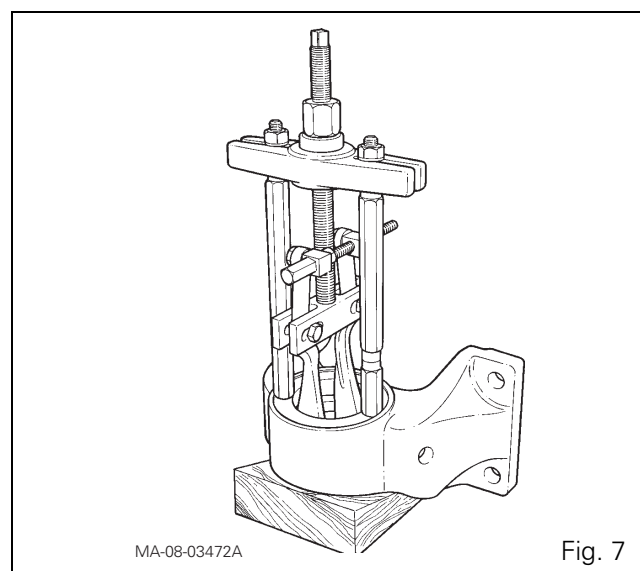

Fig. 7
59. Take off the seals (11) (13) and washers (10) (12).
60. Using a suitable extractor, take out the front and rear pivot bearing rings (Fig. 7).